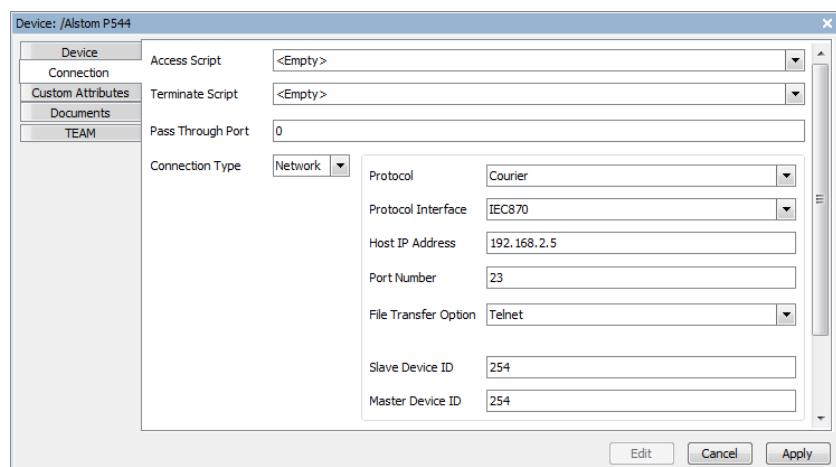

Figure 61 Connection Settings
Step 5. Under the **Connection** tab, specify **Network** as the **Connection Type** and **Courier** as the **Protocol**. Select **IEC870** for **Protocol Interface**. Enter the IP address and port number of the IED, and set the **File Transfer Option** to **Telnet**. Set the **Slave Device ID** and **Master Device ID** to that of the IED (254 is the default), as shown in *Figure 61*. Select **Save All** ().